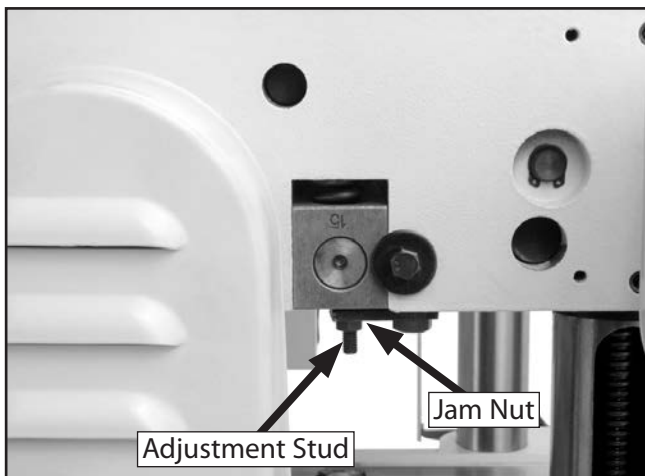

Figure 55. Feed roller height adjustment.
9. Loosen jam nuts and use set screws on each side of feed roller (see **Figure 55**) to adjust height of infeed roller bushing block until Rotacator dial shows 0.040", which is the recommended distance for infeed roller below cutterhead.